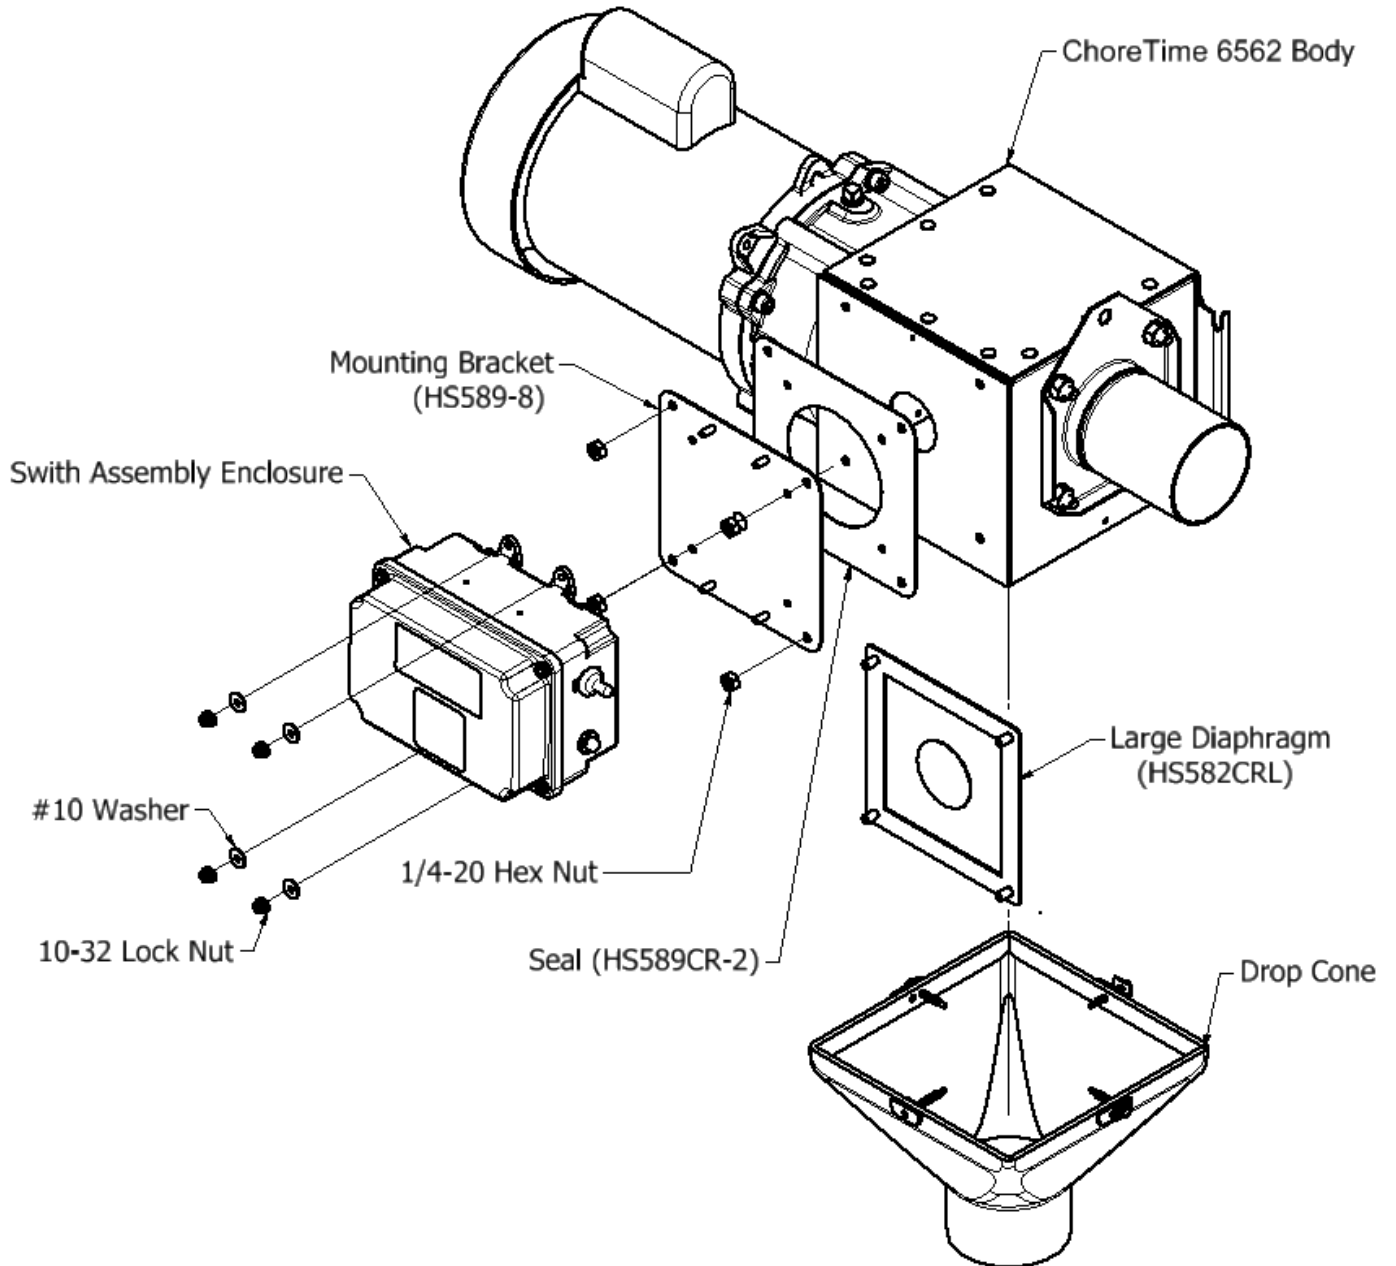

FIGURE 1
1. (**Figure 1**) illustrates a typical installation example of the HS589 Control Unit Switch Assembly to a 6560 Control Unit.
9. Fit the HS589CR-2 Seal on the studs of the HS582CRL Diaphragm as shown in **Figure 1**.